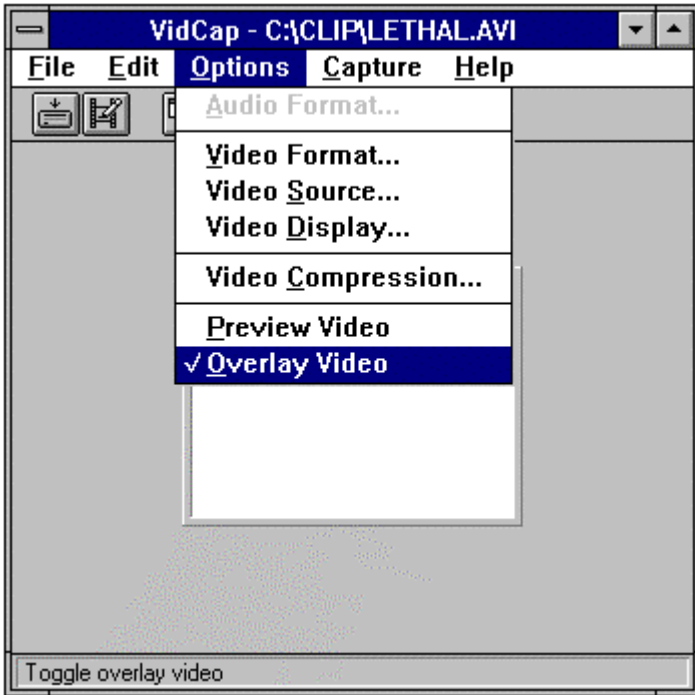

Figure 3-17.
3. In the VidCap program window, **CLICK** on “Overlay Video” under Options (See Figure 3-17).